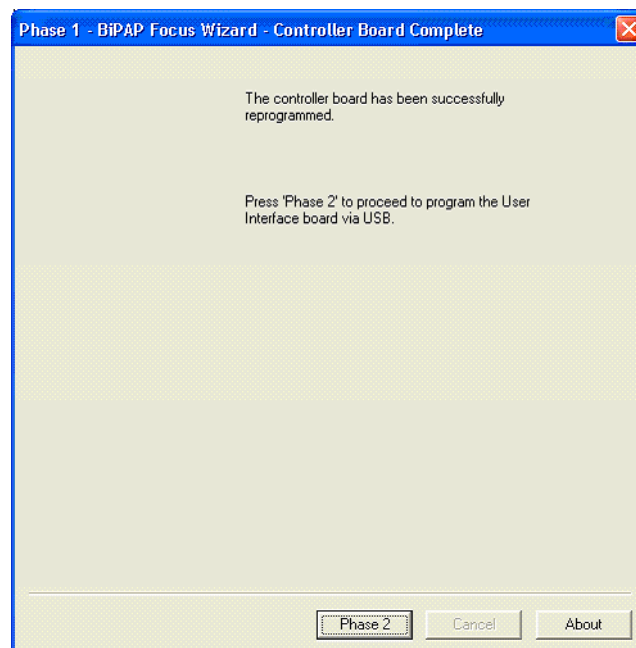

Figure 6-9: BiPAP Focus Controller Board Software Installation Finished
5. Once the controller board software installation is complete, a completion screen (Figure 6-9) is displayed. Click **Finish**.